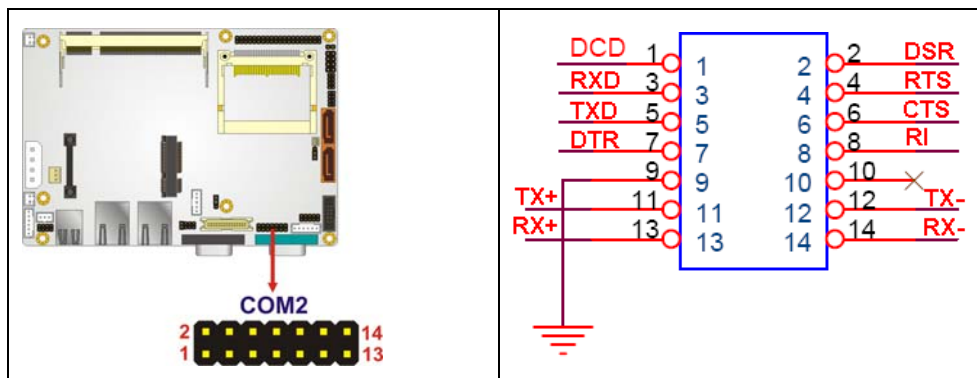

Figure 3-12: Serial Port Connector Location
- CN Location:** See Figure 3-12